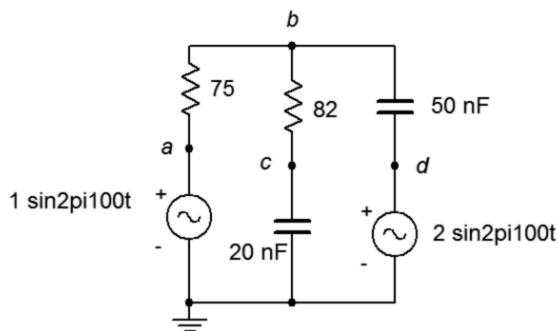

Figure 5.2
3. Use Superposition to find the current through the 82Ω resistor. For the circuit shown in Figure 5.2.
4. Use Superposition to find v_b and v_{cd} for the circuit shown in Figure 5.2.